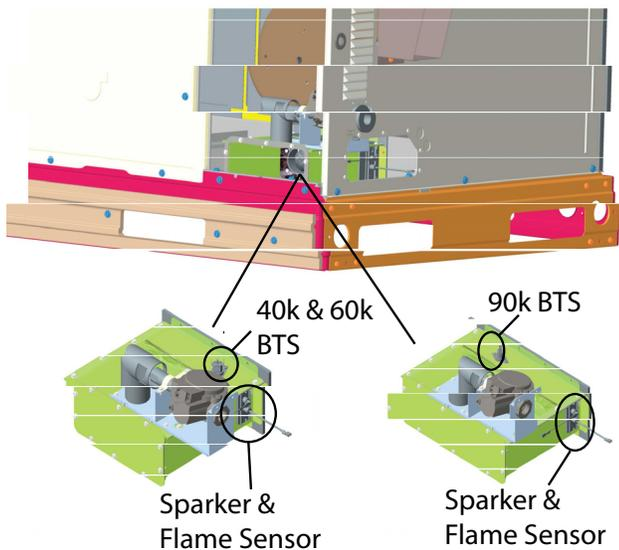

Fig. 31 – Burner Thermal Switch (BTS) (Ultra Low NOx) ^{A200287}
2. Remove 2 screws holding the flue hood (Fig. 31) and remove the flue hood.
6. Re-connect flue hood (Fig. 31) using the 2 screws removed.